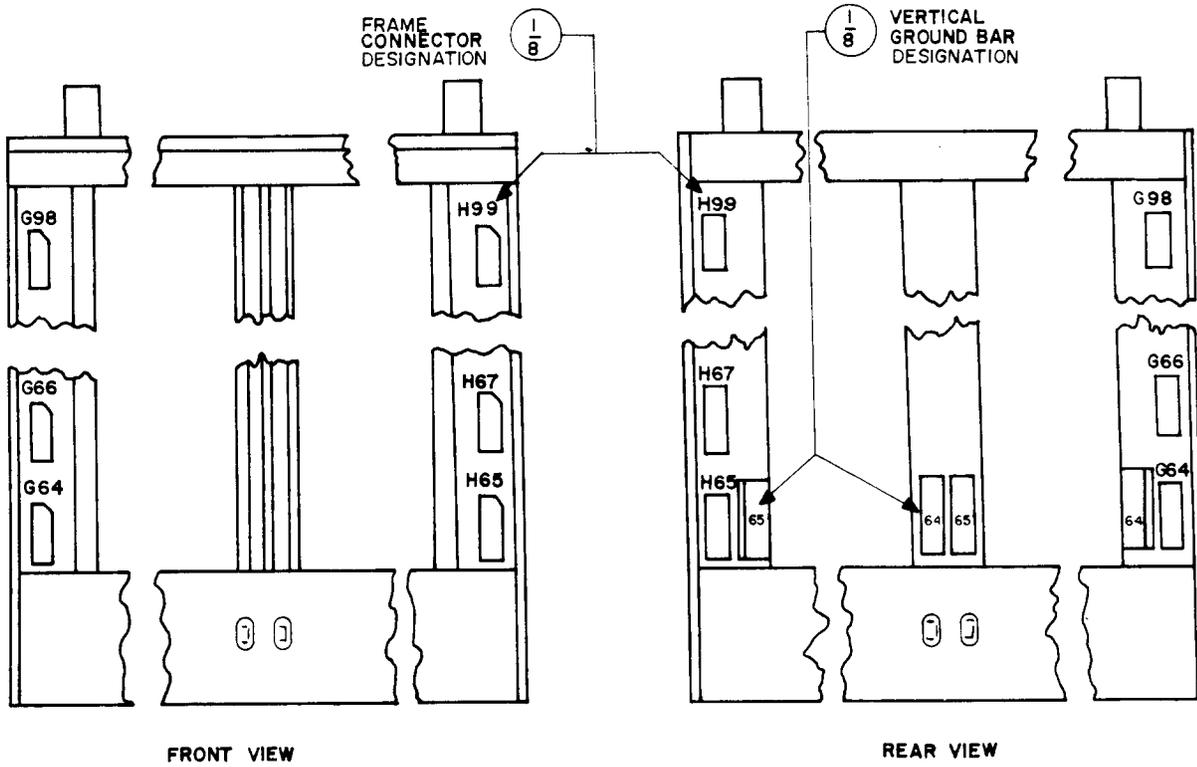

Fig. 5 - Typical Connectorized Multibay Frame — Connector and Vertical Ground Bar Designs
2.19 Frame connector designations shall be stamped immediately above the associated connectors with 1/8-inch characters on front and rear of the frame upright. (See Fig. 5.)
2.20 Vertical ground bar designations shall be stamped with 1/8-inch characters centered on the ground bar. (See Fig. 5.)